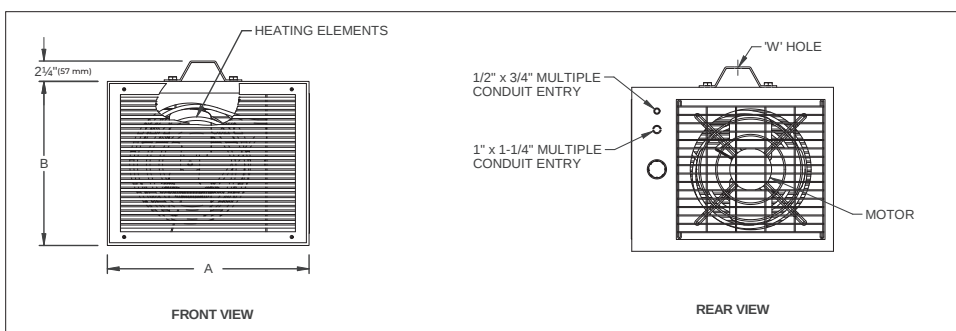
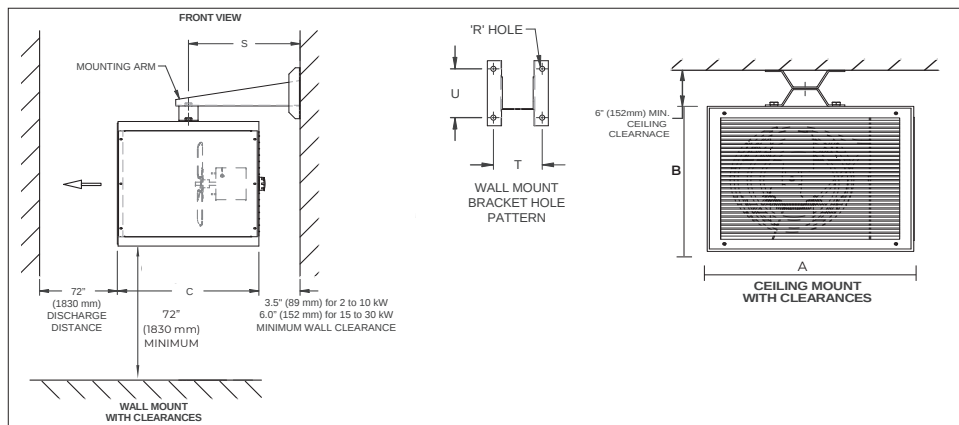

Figure 1
Figure 2 – Mounting Clearance
1. Ensure there are no obstructions that may impede the heater's air inlet or discharge. Refer to Figure 1 and Figure 2, page 4, for minimum clearances.
WARNING. Install heater with sufficient clearance to walls and ceiling as indicated in figure 2 on page 4. Mount with bottom of heater no less than 6 ft (1830 mm) above floor or grade.